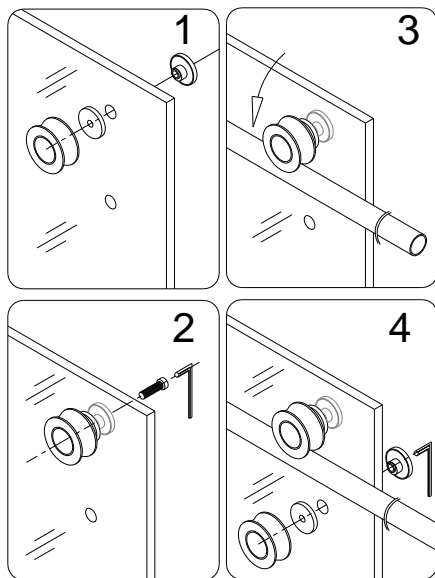

Fig. 11
8. Attach two top **Rollers (04)** onto the **Sliding door (05)**. Suspend the door by hanging the rollers onto the **Running rail** and slide the bottom edge of the **Sliding door** in the groove of the **Guide block**. Adjust the fasteners on both top rollers to ensure that the bottom edge of the glass does not touch the bottom of the guide block. Then mount two lower **Rollers (04)** onto the door to secure the door to the **Running rail**. See fig. 11&12 for details.